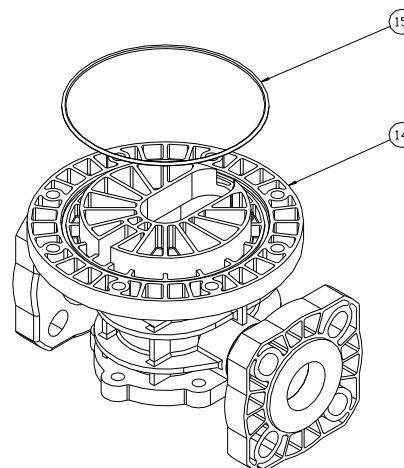

Figure 41
3. Install O-ring (item 15) into the back side of the center housing (item 14) as shown in Figure 41. Some O-ring lubricant may help keep O-rings in place during assembly. Be sure the O-ring is fully seated into housing groove.